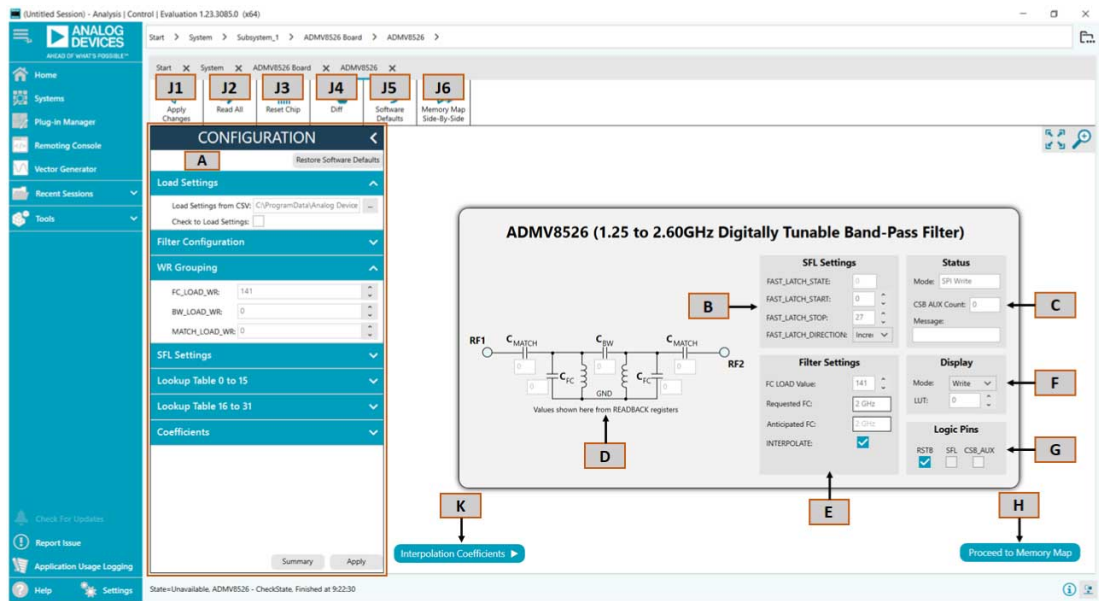

Figure 7. ADMV8526 Chip Plug-In with Labels
The full screen ADMV8526 chip plug-in with labels is shown in Figure 7. The labels correspond to items listed in Table 1, which
Table 1. ADMV8526 Chip Plug-In Label Functions (See Figure 7)
E	<p>The Filter Settings section shows several controls for configuring the filter. Depending upon if INTERPOLATE is enabled, various controls can be visible. When INTERPOLATE is enabled (as shown Figure 7), the following controls are visible:</p> <p>FC_LOAD Value: this numeric up and down box (0 to 255) is used to set the desired center frequency value. Note that this is a unitless quantity, where a 0 corresponds to the lowest center frequency, and 255 corresponds to the highest center frequency.</p> <p>Requested FC: enter in a requested center frequency in this text box. The value entered is used to compute the closest FC_LOAD Value for that frequency of operation.</p> <p>Anticipated FC: this text box is an estimation of the operating center frequency based upon the FC_LOAD Value.</p> <p>INTERPOLATE: this check box enables the interpolation functionality on the chip.</p> <p>When INTERPOLATE is disabled (not shown in Figure 7), the following controls are visible:</p> <p>FC_LOAD Value: this numeric up and down box (0 to 255) is used to set the desired center frequency capacitor code.</p> <p>BW_LOAD Value: this numeric up and down box (0 to 255) is used to set the desired bandwidth capacitor code.</p> <p>MATCH_LOAD Value: this numeric up and down box (0 to 255) is used to set the desired input and output match capacitor code.</p> <p>INTERPOLATE: this check box enables the interpolation functionality on the chip.</p> <p>READBACK Values to Filter Settings: this button is available when interpolation is disabled. Click this button to populate the read back values from the hardware into the FC_LOAD, BW_LOAD, and MATCH_LOAD values.</p>
If a reset of the ADMV8526 chip is required on the ADMV8526-EVALZ, click **Reset Chip** (see Figure 7, Label J3, and Table 1 for additional information). This automated sequence performs the following actions:
- ▶ The $\overline{\text{RST}}$ pin can also be pulled low from within the ACE software by unchecking the **RSTB** check box in the lower right corner of Figure 7 (see Label G). When using this option, be sure to click the check box again to return the $\overline{\text{RST}}$ pin high.